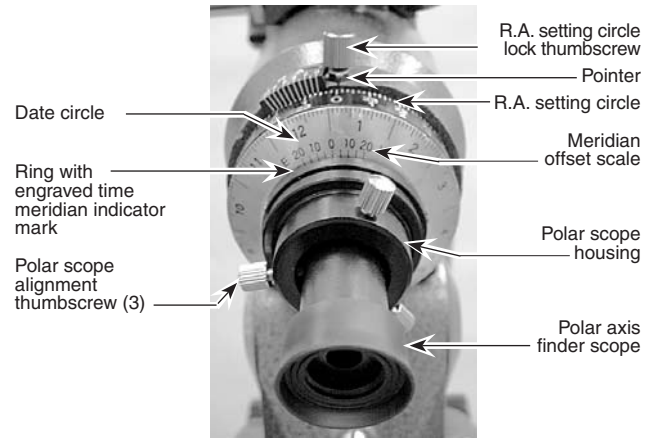

Figure 3. The polar axis finder scope installed in the right ascension (R.A.) axis of the mount.
9. Install the polar axis finder scope into its housing inside the R.A. axis of the equatorial mount (Figure 3). First loosen the three thumbscrews on the housing, which is located at the rear of the R.A. axis. Insert the front end of the polar finder (the end without the eyeguard) into the housing so only about 1" of the polar finder extends from the back of the housing. Do this slowly and with a twisting motion to prevent the internal O-ring from becoming unseated. Should the O-ring become unseated, remove the entire housing from the mount to locate the O-ring and reseal it by rotating the entire housing counterclockwise. Once the polar axis finder scope is in the housing, tighten the three thumbscrews. These thumbscrews will be used later to align the finder with the mount's R.A. axis.
The AstroView Equatorial Mount features a polar axis finder scope housed inside the R.A. axis of the mount (see Figure 3). When properly aligned and used, it makes accurate polar alignment quick and easy to do. Alignment of the polar finder need only be done once, unless it gets bumped or otherwise shifts its position.
We will start by aligning the polar finder rotationally. Refer to Figure 3.
1. Loosen the R.A. setting circle lock thumbscrew. Rotate the R.A. setting circle until the line above the "0" on the setting circle lines up with the pointed indicator that is cast into the mount (located directly below the large thumbscrew; see Figure 3). Retighten the thumbscrew.
The R.A. setting circle is scaled in hours, from 1 through 24, with small marks in between representing 10-minute increments (there are 60 minutes in 1 hour of R.A.). The upper set of numbers apply to viewing in the Northern Hemisphere, while the numbers below them apply to viewing in the Southern Hemisphere. The location of the R.A. coordinate indicator arrow is shown in Figure 3.
4. Loosen the R.A. setting circle lock thumbscrew (see Figure 3); this will allow the setting circle to rotate freely. Rotate the setting circle until the arrow under the thumbscrew indicates the R.A. coordinate listed in the star atlas for the object. Do not retighten the thumbscrew when using the R.A. setting